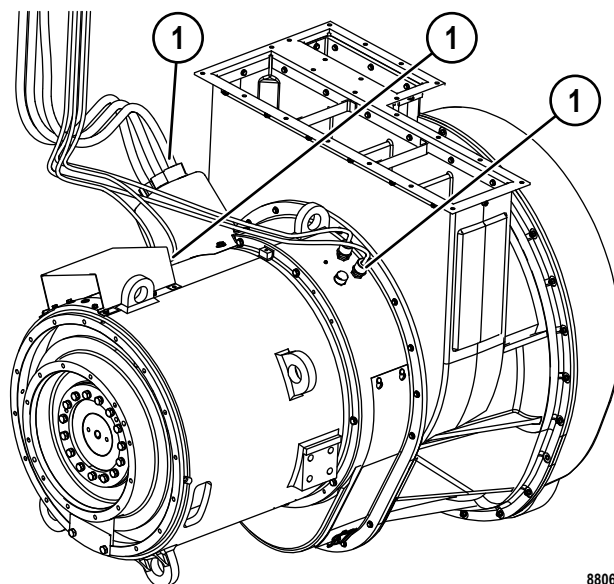

FIGURE 50-11. TRACTION ALTERNATOR POWER CABLES
21. Disconnect all power cables (1, Figure 50-11) and other wiring from the traction alternator.